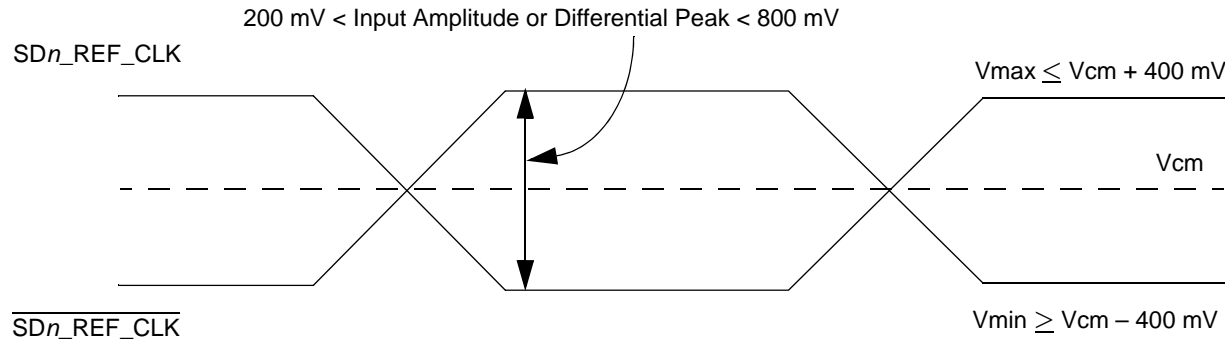

Figure 46. Differential Reference Clock Input DC Requirements (External AC-Coupled)
- For **external AC-coupled** connection, there is no common mode voltage requirement for the clock driver. Because the external AC-coupling capacitor blocks the DC level, the clock driver and the SerDes reference clock receiver operate in different command mode voltages. The SerDes reference clock receiver in this connection scheme has its common mode voltage set to SGND\_SRDSn. Each signal wire of the differential inputs is allowed to swing below and above the command mode voltage (SGND\_SRDSn). Figure 46 shows the SerDes reference clock input requirement for AC-coupled connection scheme.